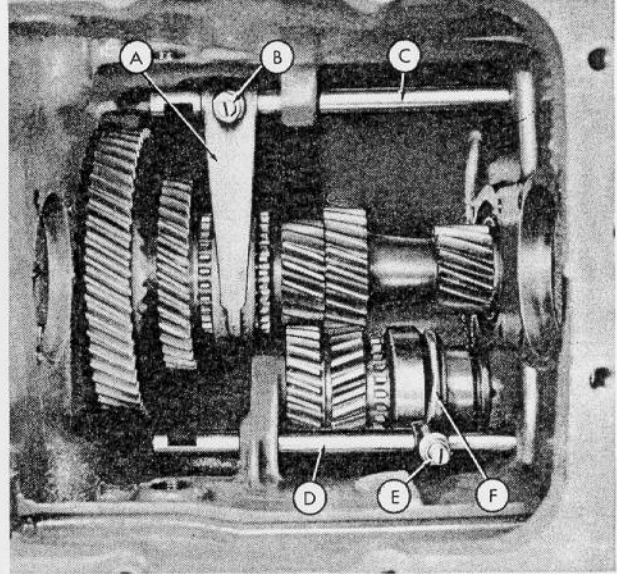

Fig. 5
Step 6—Remove the two lower shift rails and forks. (C and D-Figure 5).
- b. Loosen the locknuts (B and E-Figure 5) on the shift forks and release the screws until the shafts are free to slide out of the forks.
- d. Remove the forks (A and F-Figure 5).